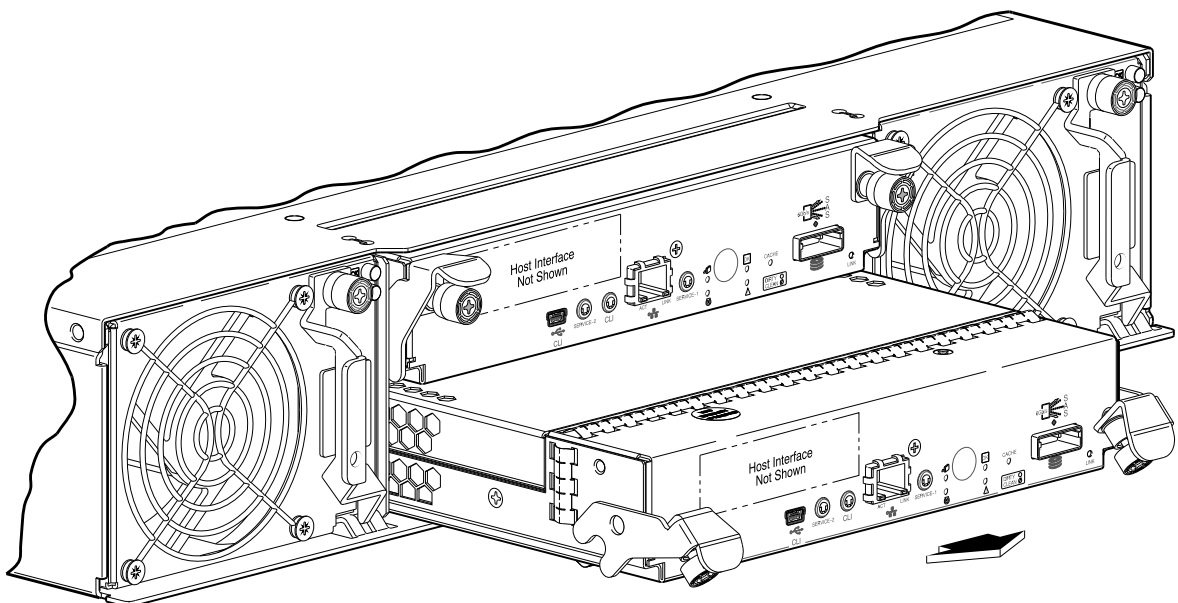

Figure 15 Removing a controller module
6. Pull the controller module straight out of the enclosure such that the controller module remains level during removal (see Figure 15).